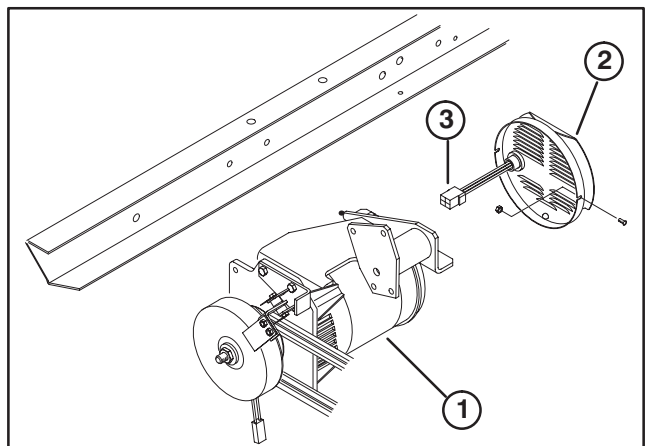

Figure 15
48. Place generator assembly on floor beneath right frame rail (Fig 15).
49. Route generator cover and harness from control box, along underside of vehicle frame, along cross member and above belly guards to generator (Fig 15).
51. Mount generator cover to generator with (2) M5-80 x 16 screws and nuts (Fig 15).